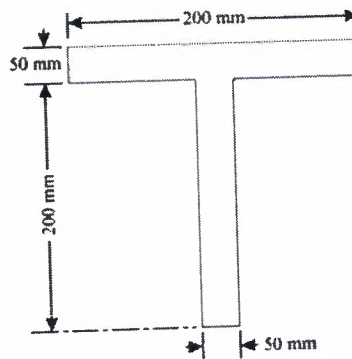

Figure 1
3. A T-section beam is shown in Figure 1 is subjected to a vertical shear force of 100kN. Calculate the shear stress at the neutral axis and at the junction of the web and the flange. Moment of inertia about horizontal neutral axis is 0.0001134 m⁴. Also draw shear stress distribution for composite section. [5]